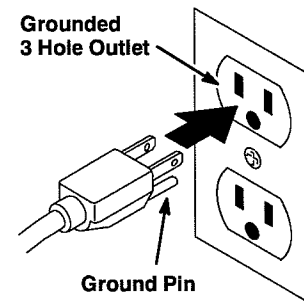

FIG. 2
3. Plug power cord into a grounded wall outlet (Figure 2).